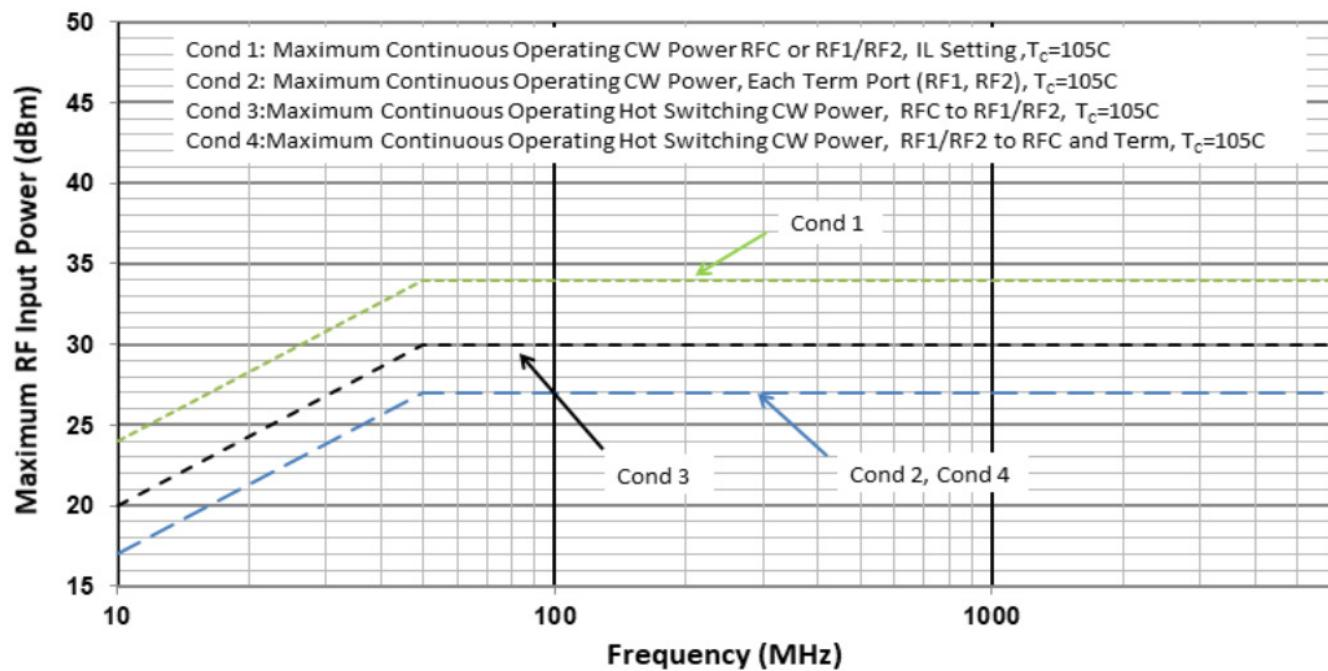

Figure 2. Maximum RF Input Operating Power vs. Frequency
1. Levels based on: VDD = 3.1V to 5.25V, 250MHz ≤ FRF ≤ 6000MHz, ZS = ZL = 50Ω. See Figure 2 for power handling derating vs. RF frequency.